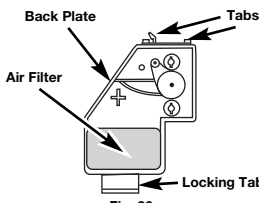

Fig. 36
6. Replace the filter (Fig. 36).
7. Reinstall the air filter cover. Position the slots on the top of the air filter cover onto the tabs at the top of the back plate (Fig. 36).